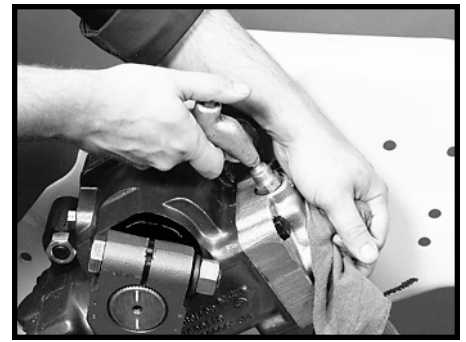

Figure 24
- 2.5 Hold a shop rag over the worm shaft/input shaft (17) and apply shop air pressure to the valve housing return port. SEE FIGURE 24.